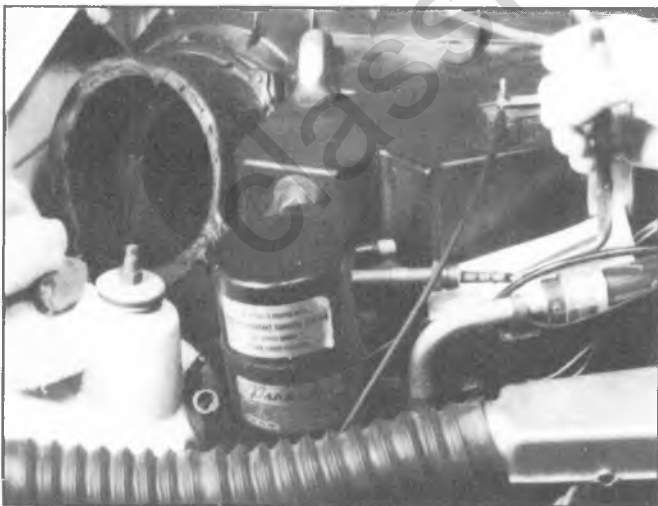

Fig. 1B-37-Expansion Tube - Typical
3. Using needle-nose pliers, remove the expansion tube from the evaporator core inlet line (fig. 1B-37).